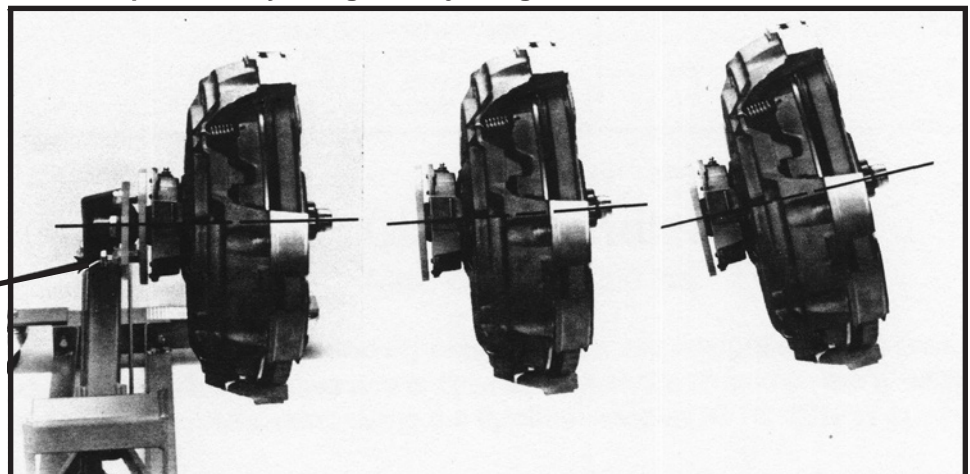

Figure 4
4. Use the adjusting screw to change the angle of the clutch assembly to match the flywheel. See Figure 4.
5. Use the adjusting screw to change the angle of the clutch assembly to match the flywheel. See Figure 4.